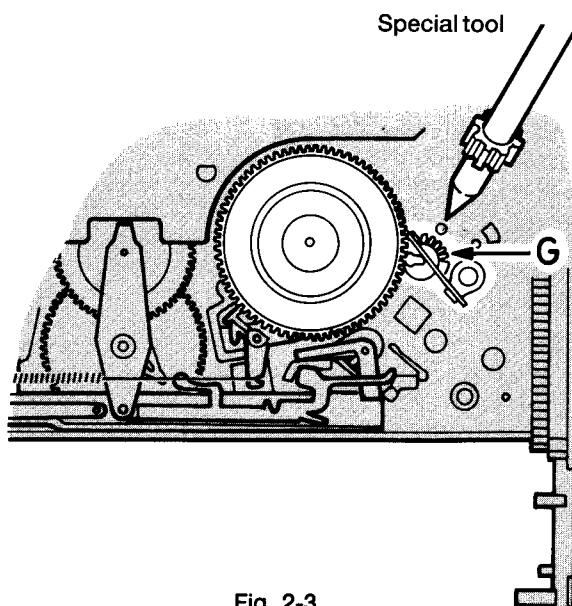

Fig. 2-3
- First carry out preparation items 1,2 and 3.
- To adjust this take-up reel friction, rotate item G using special tool turning the tool clockwise increasing the friction (Fig. 2-3).